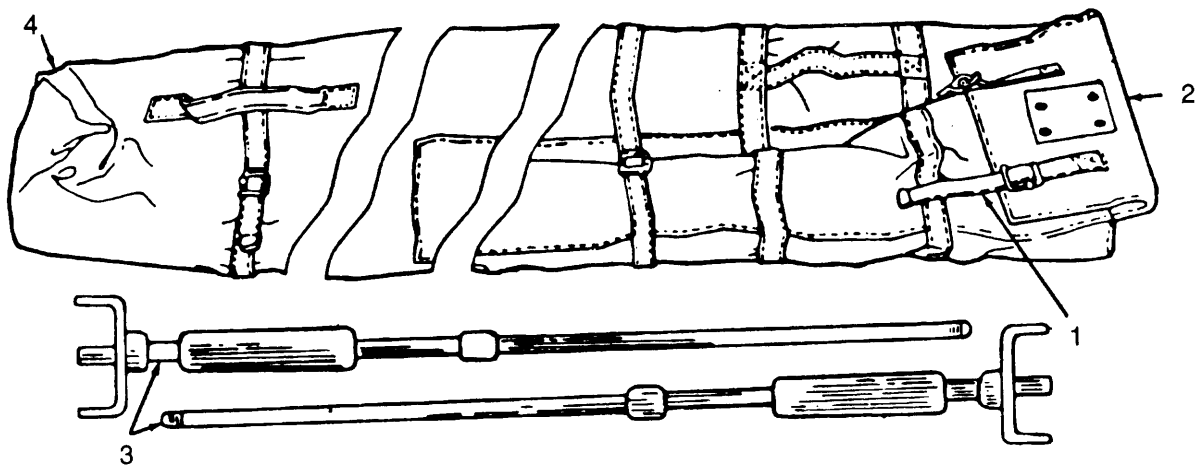

Figure 4-5. Ground Rod, Removal/Installation.
a. Removal. (Refer to Figure 4-5.)
- (1) Unbuckle two straps (1) and open flap (2).
- (2) Remove two ground rods (3) from container (4).